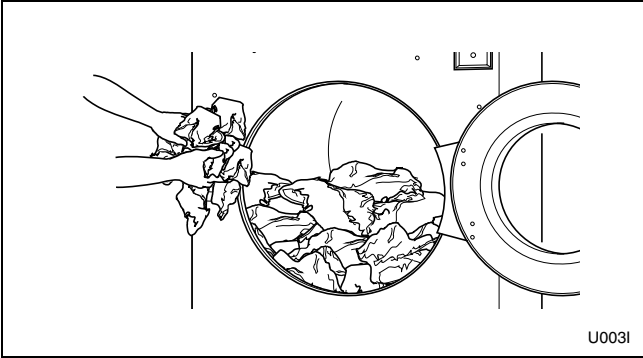

Figure 32
3. Load to capacity whenever possible. DO NOT OVERLOAD. Refer to *Figure 32*.